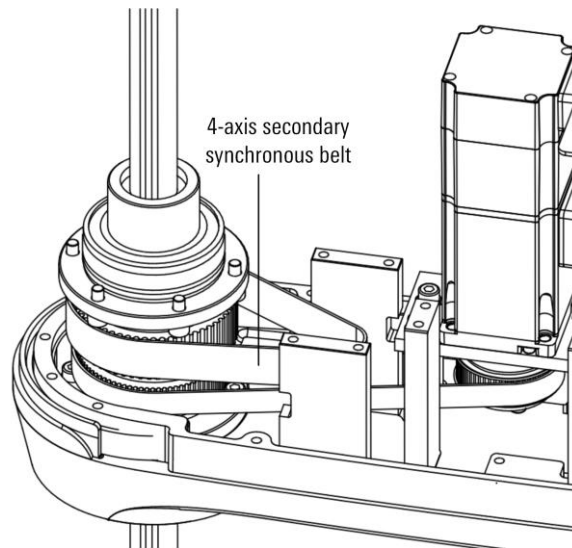

Figure 8-16 Schematic diagram of disassembling 4-axis secondary synchronous belt
Step6. Remove the 4-axis secondary timing belt, install a new timing belt, and install other timing belts, as shown in Figure 8-16, and then re-fix the screw spline flange to the forearm.